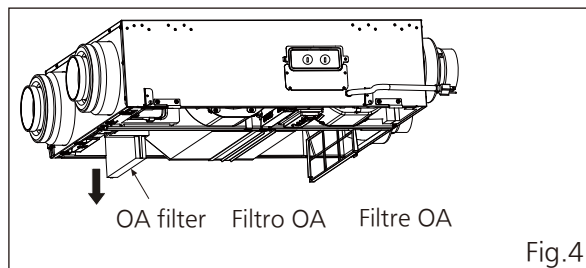

Fig.4
2. Remove OA filter. (Fig.4)
Extraiga el filtro de OA. (Fig.4)
Retirez le filtre OA. (Fig.4)